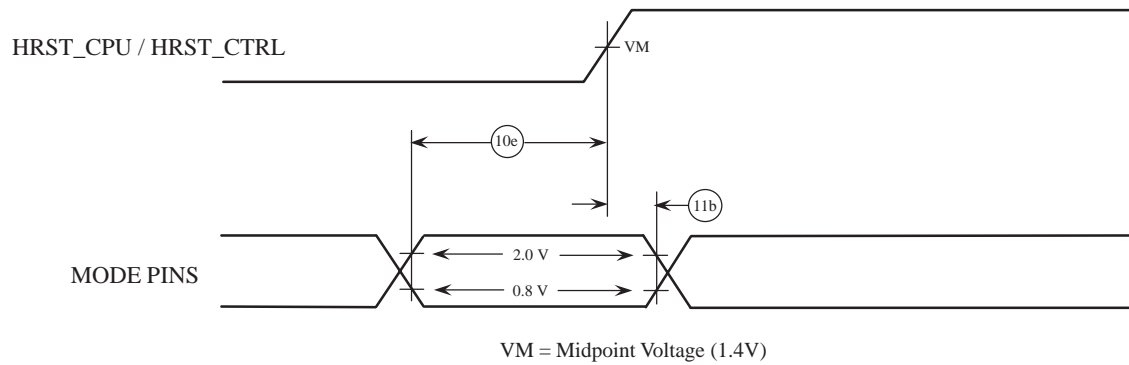

Figure 12: . Input Timing Diagram for Mode Select Signals
- All mode select input signals specifications are measured from the TTL level (0.8 or 2.0 V) of the signal in question to the $V_M = 1.4$ V of the rising edge of the HRST_CPU / HRST_CTRL signal. See Figure 12.